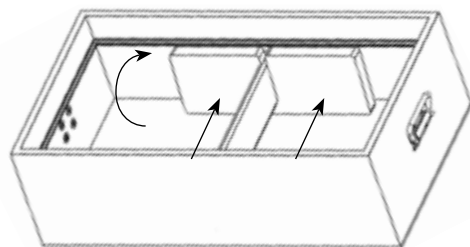

Figure 23
3. Once the cut in the foam spacer is centered under the wood rib, rotate the foam spacer up 90 degrees and push against the wood side. See Figure 23